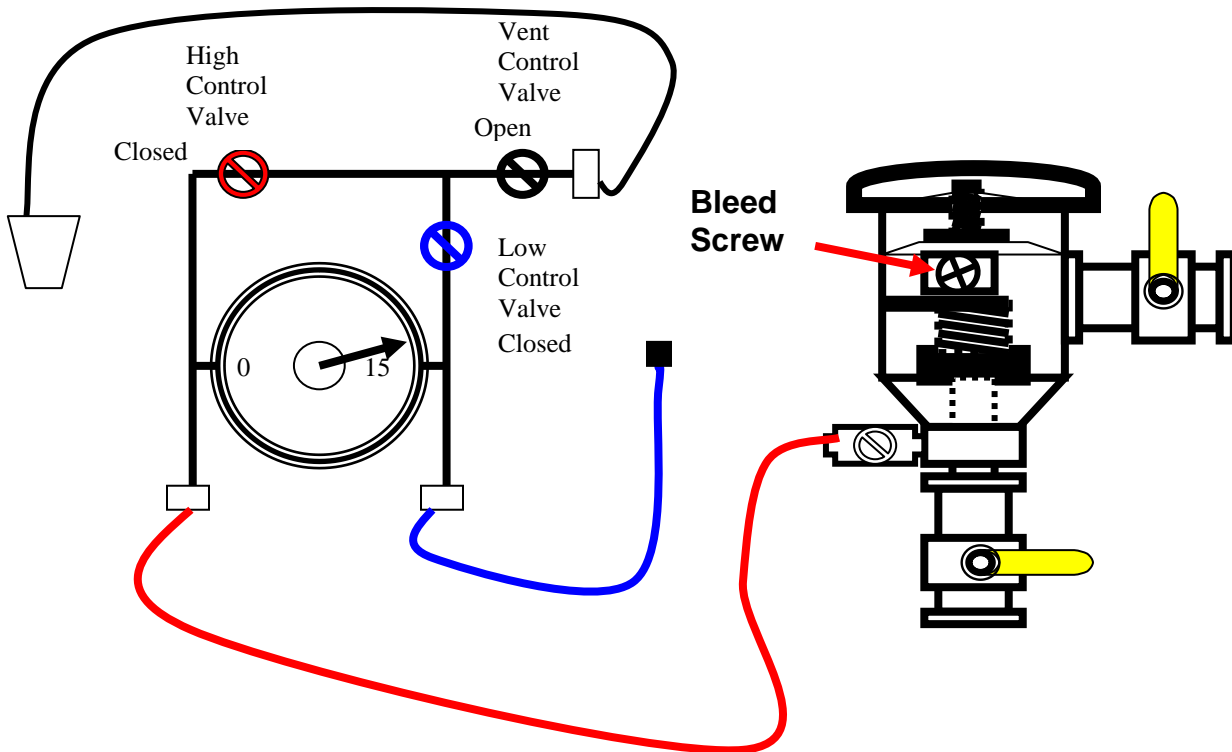

Figure 2
**Step 2: Tightness Validation Test -- Test the device to determine if the device is under a no-flow condition and validate differential pressure reading. (Figure 2)**